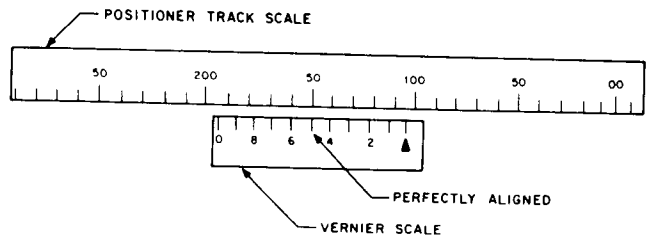

Figure 5-11 How to Read a Vernier
5.4.1.1 RK05K-AC Alignment Cartridge – This Digital Equipment Corporation alignment cartridge represents the preferred method for RK05 alignment procedures. It provides three tracks (principal track 105, plus spare tracks 85 and 125) of constant frequency data with alternate sectors recorded at displacements of +0.0025 and -0.0025 inches, respectively, from the ideal track locations. Figure 5-11 shows how to read the vernier when locating the desired track.
In Figure 5-11, the nearest positioner track scale marking to the right of the triangle is 100; the vernier scale value that aligns perfectly with a positioner track scale marking is 5. Therefore, the vernier is set to Track 105 (100 + 5).